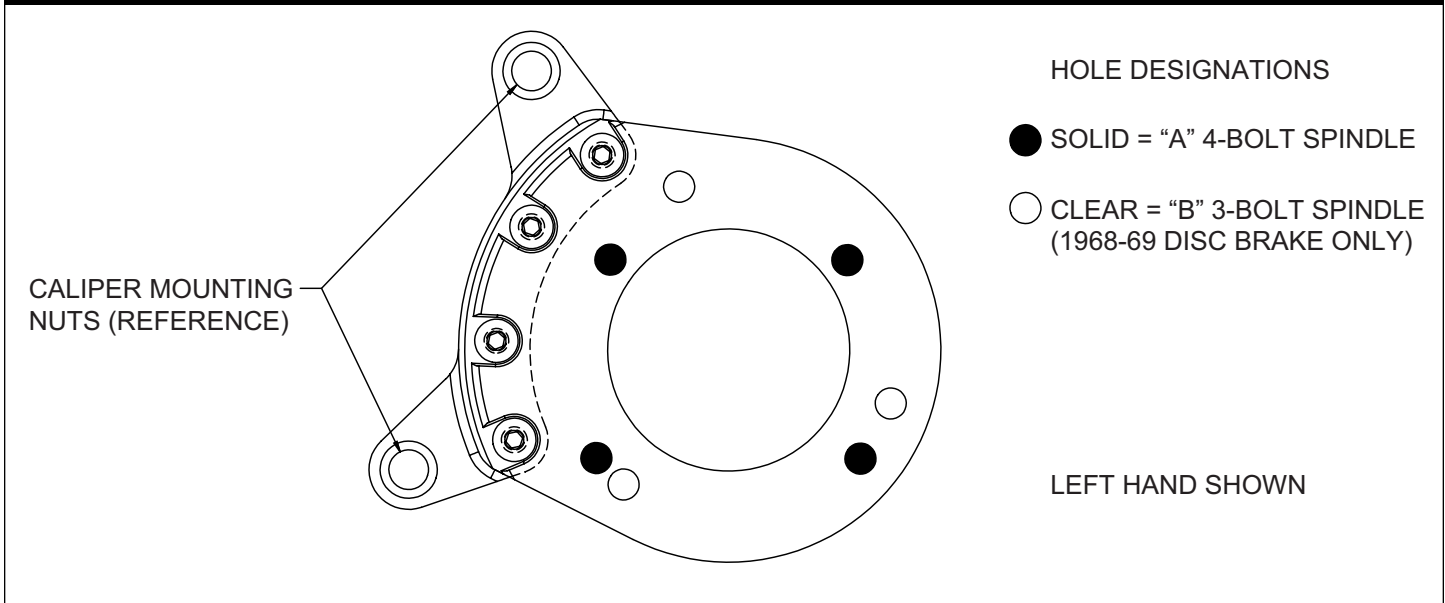
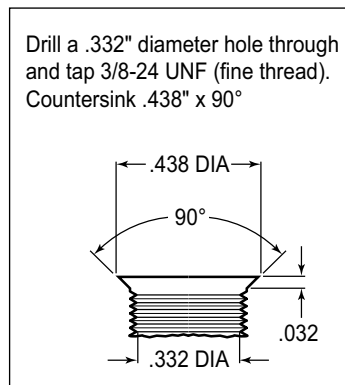
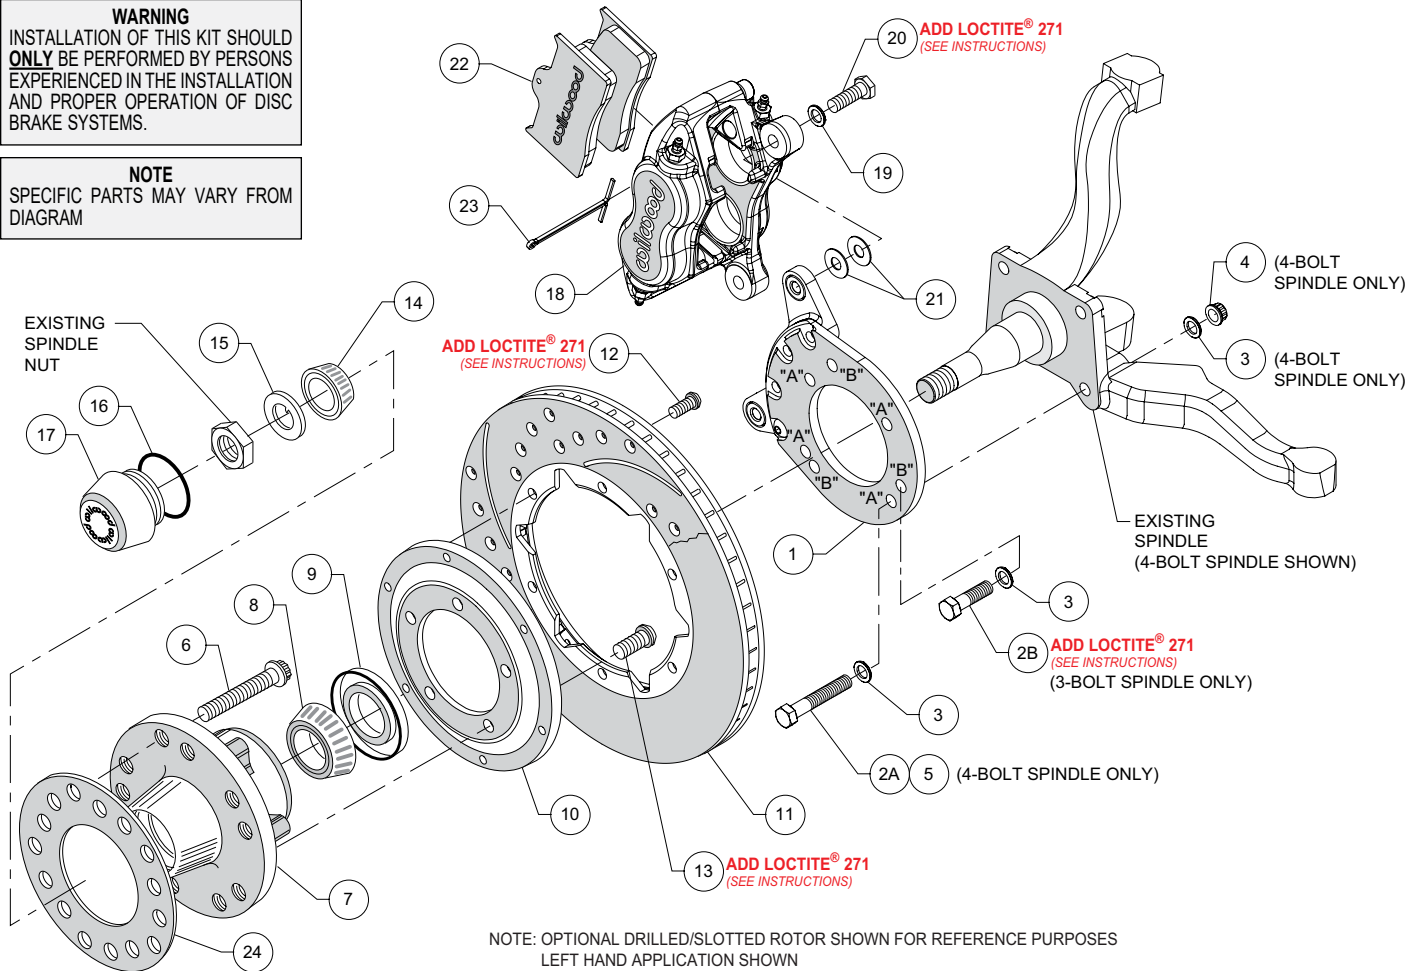
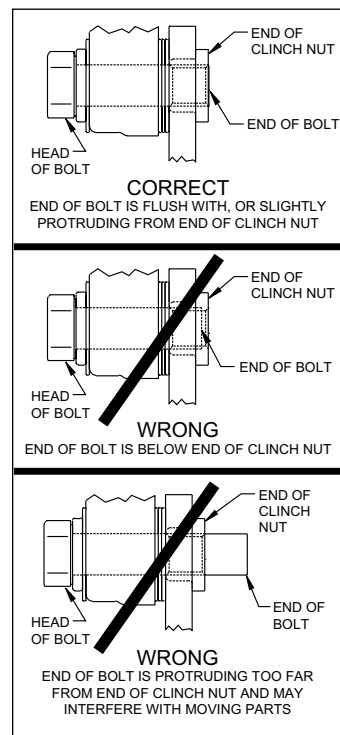

Figure 1. Wilwood Caliper Mounting Bracket
Figure 2. Drill and Tap Detail
Figure 4. Typical Installation Configuration
Figure 5. Clinch Nut Engagement Diagram
This kit has been designed for use with both three and four bolt spindle configurations. The only difference is in how the Wilwood caliper mounting bracket is installed. The same bracket is used for both configurations; only the 1968-69 disc brake spindle utilizes three mounting holes while all other spindles use the four mounting holes (see Figure 1). For your convenience we have supplied bolt kits for both applications (see parts list and Figure 4 as necessary). Use the bolt kit that is applicable to your vehicle and disregard the other one.
NOTE: This modification should be performed by a qualified machinist and completed before assembly of the Wilwood disc brake kit begins. Using the caliper mounting bracket as a template (refer to Figure 1 as necessary), locate and verify the three original holes on the spindle that need to be modified. Drill a .332" diameter hole through all three holes, then tap 3/8-24 UNF (fine thread). Countersink the holes to .438" diameter x 90°, as shown in Figure 2.
NOTE: Numbers in parenthesis refer to the parts list on the preceding page and Figure 4.
CAUTION: All mounting bolts must fully engage clinch nuts. Be sure to check that all bolts are either flush or protruding through flanged side of clinch nut after shimming, Figure 5.
NOTE: This kit uses the same mounting bracket (1) for both the three and four bolt brake spindles. The 4-bolt version, Photo 1, uses four mounting bolts (designated "A"), while the 3-bolt version, Photo 2, uses three (designated "B"). Refer to Figures 1 and 4 for the basic installation position of the bracket and the "A" and "B" reference designations (not physically marked on the brackets).
For 4-Bolt Spindle: Align bracket, using the four "A" holes, to the face of the spindle and attach using bolts (2A and 5), washers (3), and lock nuts (4), as shown in Figure 4. Ensure that the flanged heads of the clinch nuts in the bracket are facing outboard, Photo 1. Torque lock nuts to 30 ft-lb.
For 3-Bolt Spindle (1968-69 Disc Brake): Align bracket, using the three "B" holes, to the face of the spindle and attach using bolts (2B) and washers (3), as shown in Figure 4. Finger tighten. Ensure that the flanged heads of the clinch nuts in the bracket are facing outboard, Photo 2. Remove bolts one at a time, apply red *Loctite*® 271 to threads, and torque to 40 ft-lb.
- Install wheel studs (6) into the hub (7), Photo 3. Torque to 77 ft-lb. **NOTE:** There are two five lug patterns in the hub (5 x 4.50 and 5 x 4.75). Ensure the correct hub stud pattern is being used to fit the wheel application.
- Pack the large inner bearing cone (8) with high temperature disc brake bearing grease (available from your local auto parts store) and install into the backside of the hub (7), Photo 4.
- Install the grease seal (9) by pressing into the backside of the hub (7), flush with the end of the hub, Photo 4.
- Orient the rotor (11) and the rotor adapter (10) as shown in Figure 4 and Photo 5. Attach the rotor to the adapter using bolts (12). Using an alternating sequence, apply red *Loctite*® 271 to the threads, and torque to 25 ft-lb.
- Mount the adapter/rotor assembly (10/11) to the hub (7) using bolts (13), as shown in Figure 4 and Photo 6. Using an alternating sequence, apply red *Loctite*® 271 to the threads, and torque to 45 ft-lb.
- Pack the small outer bearing cone (14) with high temperature disc brake bearing grease and install into hub (7). Slide the hub/rotor assembly onto the spindle. Secure using spindle washer (15) and OEM spindle nut, Photo 7. Adjust bearings per OEM specifications. Install saved OEM nut lock (if any) and a new cotter pin (not included).
- Screw dust cap (17) into hub (7), Photo 8. Friction created by the o-ring (16) on the dust cap keeps it from unscrewing. **NOTE:** The O.D. of the existing OEM spindle washer may be larger than the I.D. of the dust cap not allowing it to seat against the hub face. Therefore, use the spindle washer (15) supplied with the kit instead of the OEM washer.
- NOTE:** Please reference the caution statement at the beginning of the assembly instructions. Mount the caliper (18) onto the caliper mounting bracket (1) using bolts (20) and washers (19), as shown in Figure 4. Initially place two .035" thick shims (21) on each bolt between the caliper and the bracket, Photo 9. Temporarily tighten the mounting bolts and view the rotor (11) through the top opening of the caliper. The rotor should be centered in the caliper, Photo 10. If not, adjust by adding or subtracting shims between the bracket and the caliper. Always use the same amount of shims on each of the two mounting bolts. **NOTE:** The end of each bolt must be flush with or slightly protruding from the head of the clinch nut, as shown in Figure 5. If necessary place spare shims between washer (19) and caliper